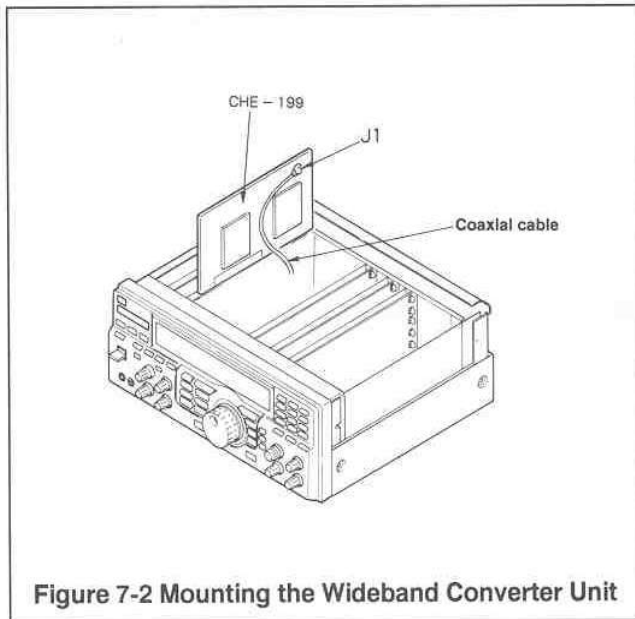

Figure 7-2 Mounting the Wideband Converter Unit
2. Attach the wideband converter unit CHE-199 at the specified location according to Figure 7-2, and insert the coaxial cable into J1 on the wideband converter unit. If the cable is not properly inserted into the wideband converter unit at this time, the contact may be faulty and prevent the NRD-545 from functioning.
4. Turn the main power ON while holding down the CLR button ④ to return the memory channels and user setup to the factory setting (default).